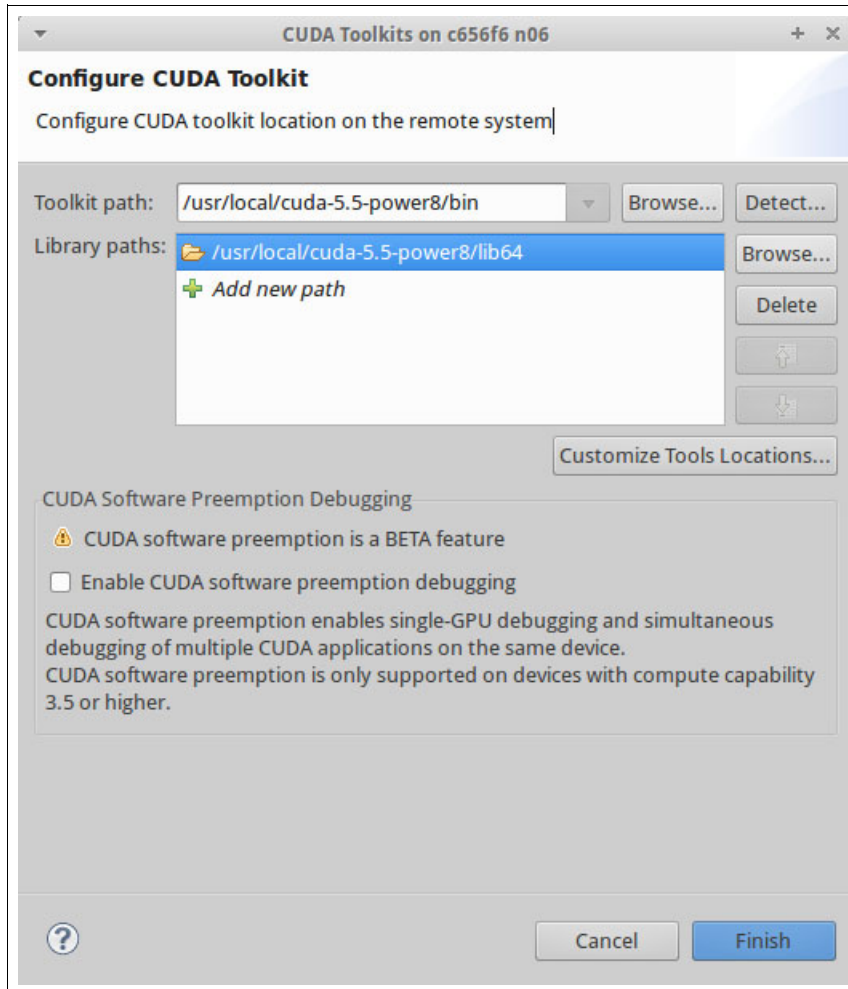

Figure 13 Setting the CUDA toolkit and libraries path in the remote machine
4. The next step is to configure the location of the CUDA toolkit and libraries in the remote machine. Click **Manage** at the connection box, and the menu as shown in Figure 13 on page 48 appears. Set the location of the CUDA toolkit (`<cuda_installation_dir>/bin/`) and libraries (`<cuda_installation_dir>/lib64/`), then click **Finish**.